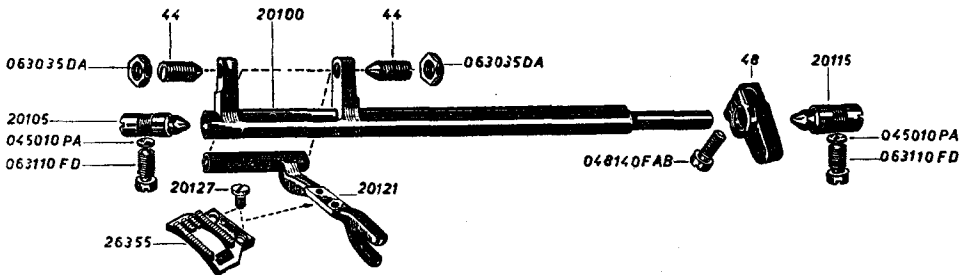

Fig. 43
- Correct the position of the feed dog by turning the feed dog shaft No. 20100 between its pointed studs No. 20105 and No. 20115 (see Fig. 43) in one direction or the other (as required).
in the direction required until the feed bar (feed dog bearer) No. 20121 is positioned correctly. Tighten the clamping screw in the feed dog shaft crank No. 48 firmly. Then, while turning the balance wheel slowly toward you and using the timing gauge No. AC 4/26, make certain that the teeth of the feed dog, when in their highest position, are now between the two reference faces of the timing gauge. If necessary, repeat this procedure until the feed dog is adjusted correctly. After the aforementioned adjustment has been taken care of, also check whether the screws No. 20127 which fasten the feed dog to the feed bar No. 20121 (Fig. 43) are firmly tightened.
After the presser foot has thus been tested and found to be satisfactory, remove the needle plate and check whether the screws No. 20127 which hold the feed dog to the feed dog bar No. 20121 (see Fig. 43), are properly tightened. If necessary, tighten these screws firmly.